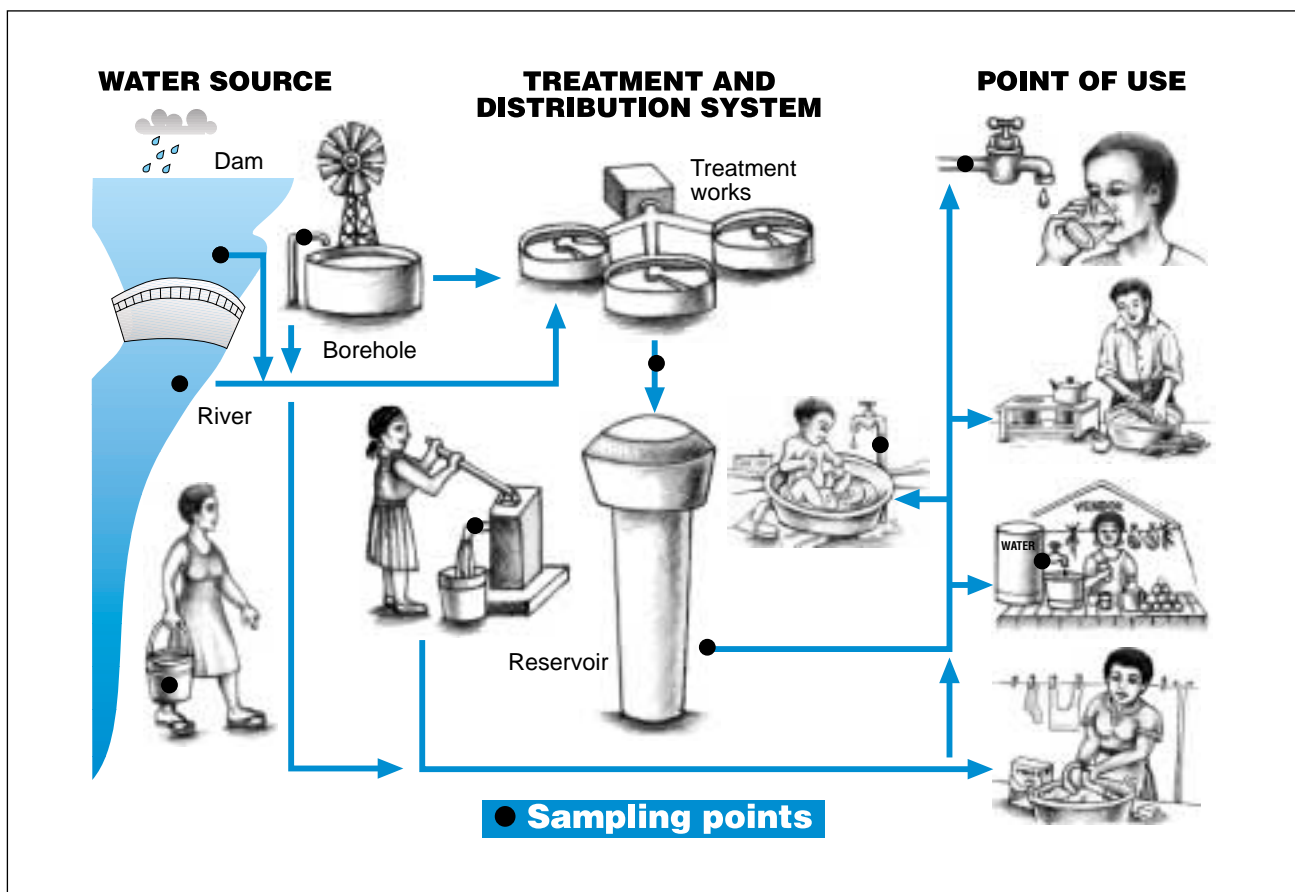

Figure 2: The water supply system showing the points that should be sampled to assess domestic water quality.
- Identify sampling point. (Figure 2)